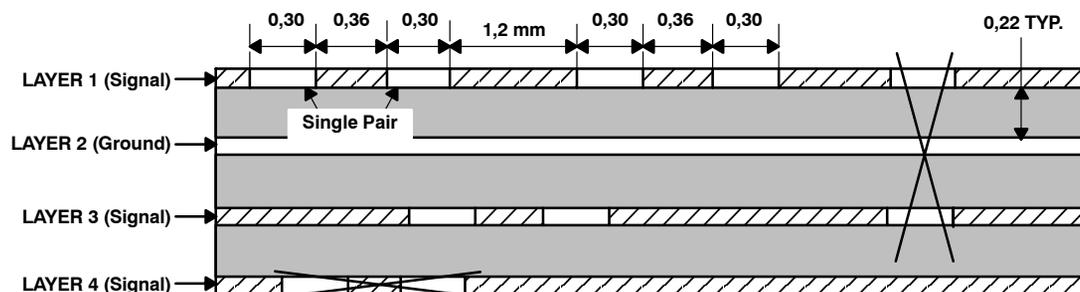

Figure 2. Typical PCB Construction
- If the PCB trace is more than 2 cm in length between the transmitter output terminals and the connector, the PCB must be constructed to maintain a controlled differential impedance near 100 Ω (see Figure 2).